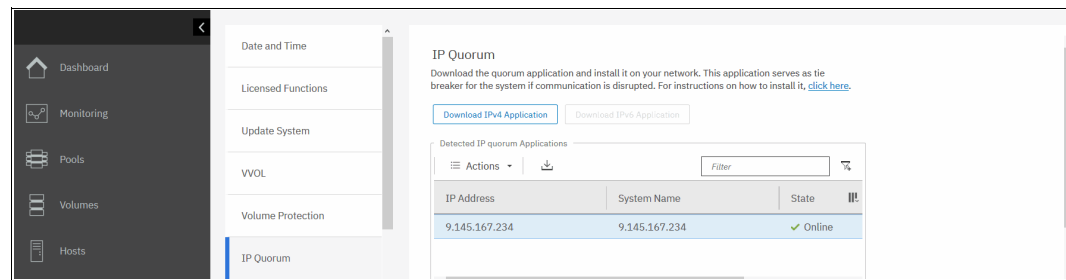

Figure 3-40 IP quorum application that is deployed and connected
- Check that the IP quorum application is successfully connected and running by verifying its Online status by selecting **System** → **Settings** → **IP Quorum**, as shown in Figure 3-40.